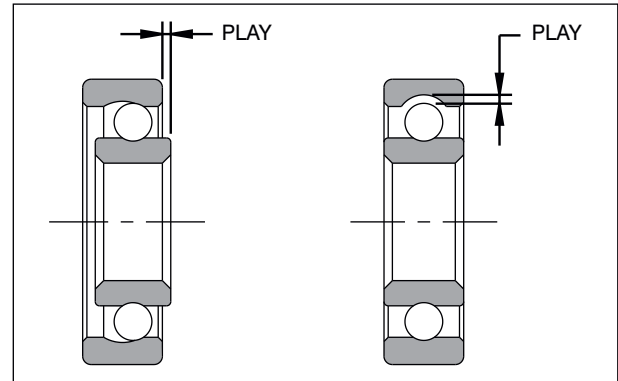

Fig. 3.168
- Inspect the play of each bearing before fixing it. Hold inner race and rotate the outer race by hand and observe for any abnormal noise and smooth rotation. Replace bearing with a new one if found defective. (Fig. 3.168)